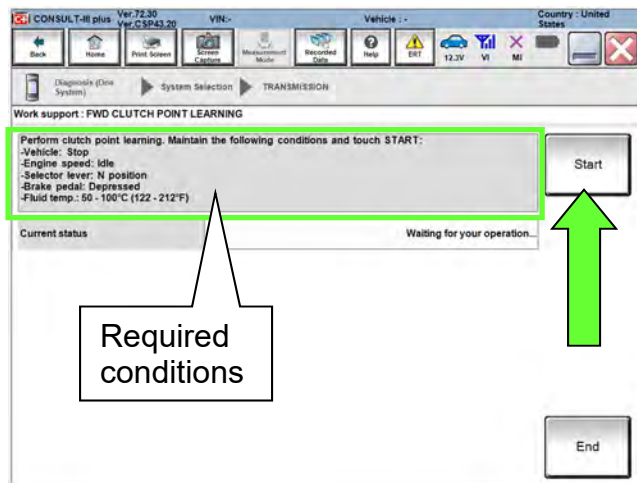

Figure 176
- Confirm that all of the required conditions indicated in Figure 176 are being met.
177. While maintaining all conditions shown in Figure 176 and the “Current status” indicates “EXECUTING”, shift the CVT into **D** and then wait until the Current status indicates “COMPLETED”.